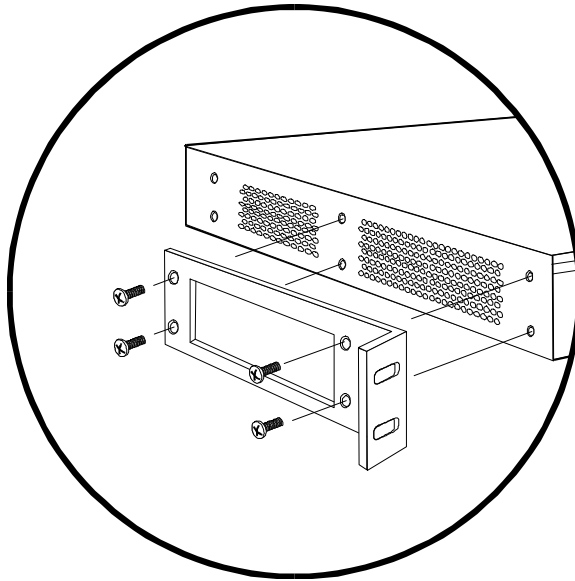

Figure 5. Connecting Mounting Brackets
2. Locate a mounting bracket over the mounting holes on one side of the unit as shown in Figure 5.